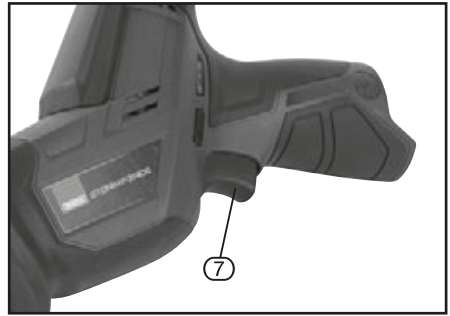

FIG.5
9.2 SWITCH AND VARIABLE STROKE RATE CONTROL - FIG. 5